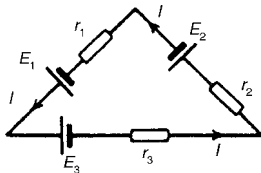

Figure 13.88
- For the circuit shown in Fig. 13.88: